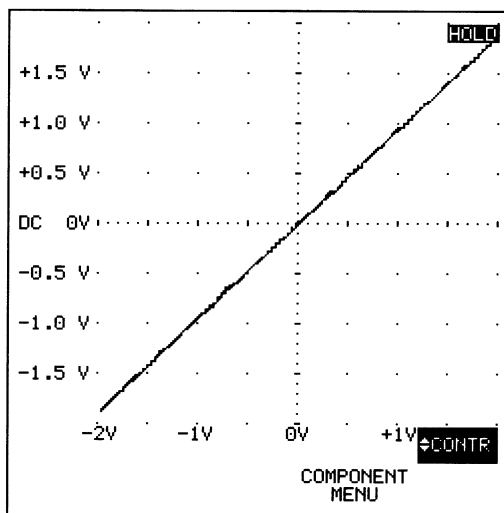

Figure 4.14 Component test voltage sweep
- E Adjust the INPUT A attenuator with the mV-RANGE-V key to 0.5V/div. The display must show a 45° line. See figure 4.14